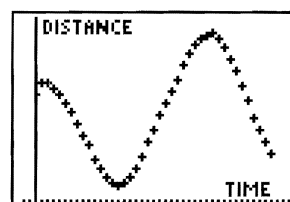

Figure 3
3. Turn off the STAT PLOT of L_2 versus L_4 and turn on the STAT PLOT of L_2 versus L_3 (Plot1). Press **ZOOM** 9 to select the ZoomStat window. Compare this plot to the printout of the graph shown in Figure 3.
The two data plots (Figures 3 and 4) show that as the distance between the light probe and the light source increases, the light intensity decreases.